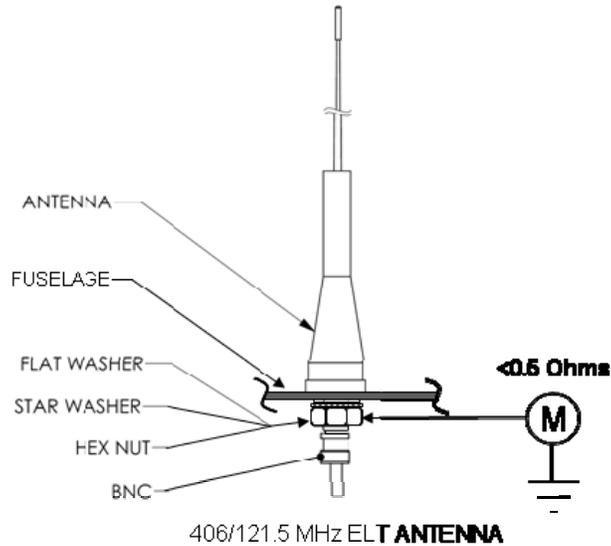

Figure 25-32 406/121.5 ELT Antenna Inspection
8. Verify ELT antenna continuity between the mounting hex nut and the chassis is < 0.5 ohms resistance (0.003 ohms is ideal). Refer to Figure 25-32